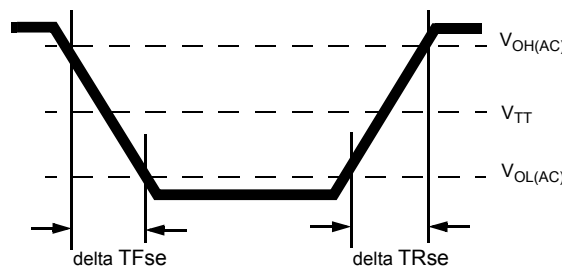

Figure 6. Single-ended Output Slew Rate Definition
With the reference load for timing measurements, output slew rate for falling and rising edges is defined and measured between V_{OL}(AC) and V_{OH}(AC) for single ended signals as shown in Table 16 and Figure 6.